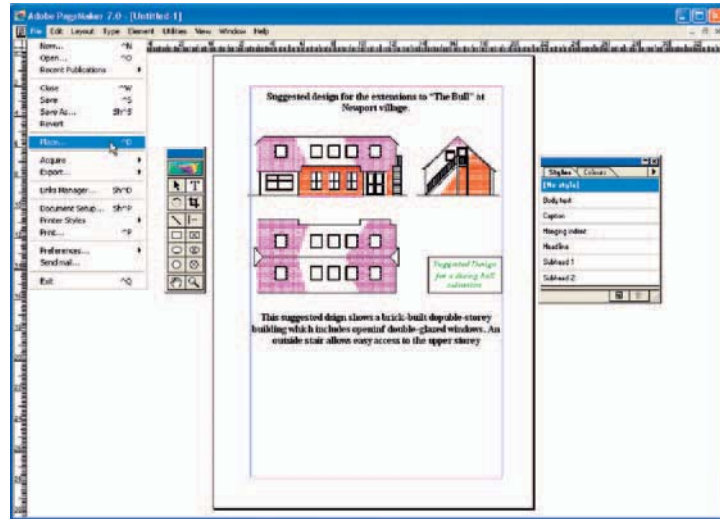

Fig. 10.4 An *.eps file placed in position in a PageMaker document
- Open a desktop publishing application. That shown in Fig. 10.4 is PageMaker.
- From the **File** drop-down menu of **PageMaker** click **Place...** A dialog appears listing files which can be placed in a PageMaker document. Among the files named will be **building.eps**. *Double-click* that file name and an icon appears, the placing of which determines the position of the *.eps file drawing in the PageMaker document (Fig. 10.4).